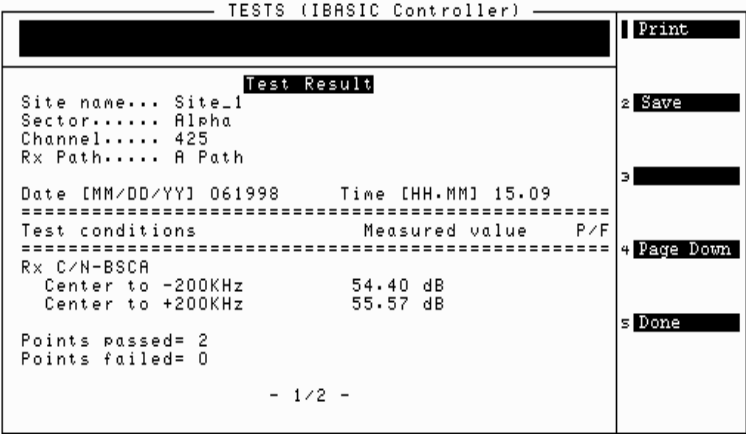

Figure 25 Test Results Table for RX C/N - BSCA Measurement
- Press k1 (Proceed) to proceed to the test results table when you are finished testing on this screen (see figure 25).